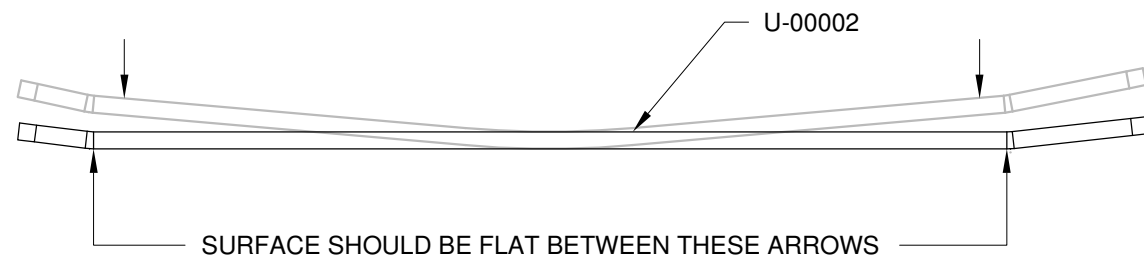

FIGURE 1: STRAIGHTENING THE WHEEL FAIRING BRACKETS
Step 1: Check the length of each of the U-00002 Wheel Fairing Brackets for curve. If the part is curved, straighten as shown in Figure 1.